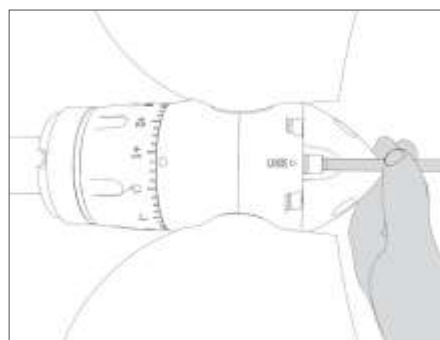

FIG. 27 Tighten the set screw
- Tighten the set screw **F** (Fig. 27) making sure that the screw fits properly and easily into its housing (If you find it difficult to tighten the screw, use the ring nut and tighten the screw slowly until it fits correctly into its slot). The locking screw is equipped with a wedge-locking washer in two halves, be careful not to lose it, it is also recommended not to tighten the set screw too hard, max 7 Nm (0,7 Kgm).